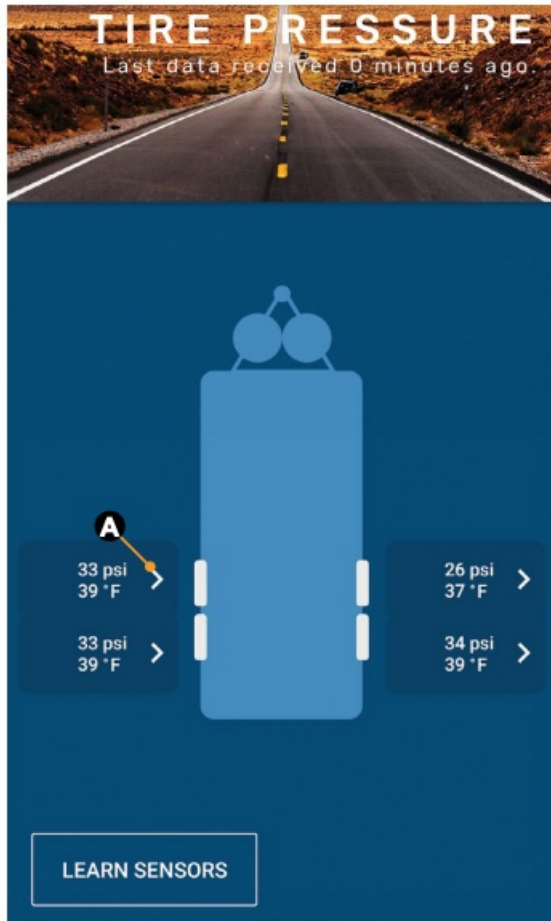
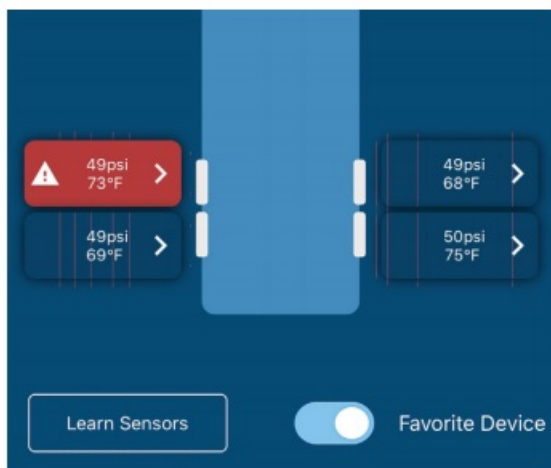

Fig.16
Fig.17
2. The smart phone will connect to the repeater and the app will display a trailer image with tire pressures and temperatures (**Fig.16**).
NOTE: Figure 16 shows tire pressures and temperatures within the specification ranges for the left front tire while figure 17 shows the tire is outside specification ranges.